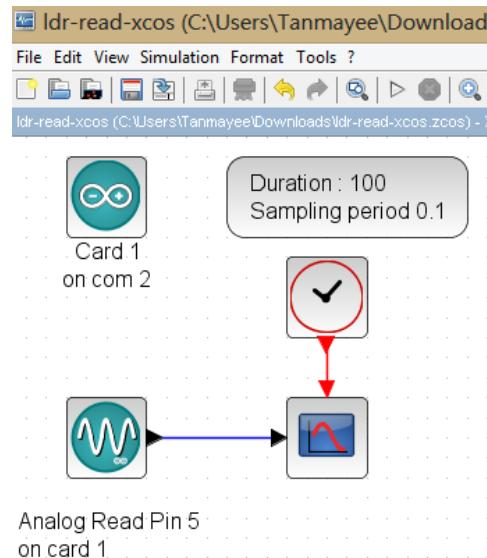

Figure 6.5: Xcos diagram to read LDR values. This is what one sees when Origin/user-code/ldr/scilab/ldr-read.zcos, see Footnote 2 on page 2, is invoked.
1. First we will read the LDR values and display it. When the file required for this experiment is invoked, one gets the GUI as in Fig. 6.5. In the caption of this figure, one can see where to locate the file.